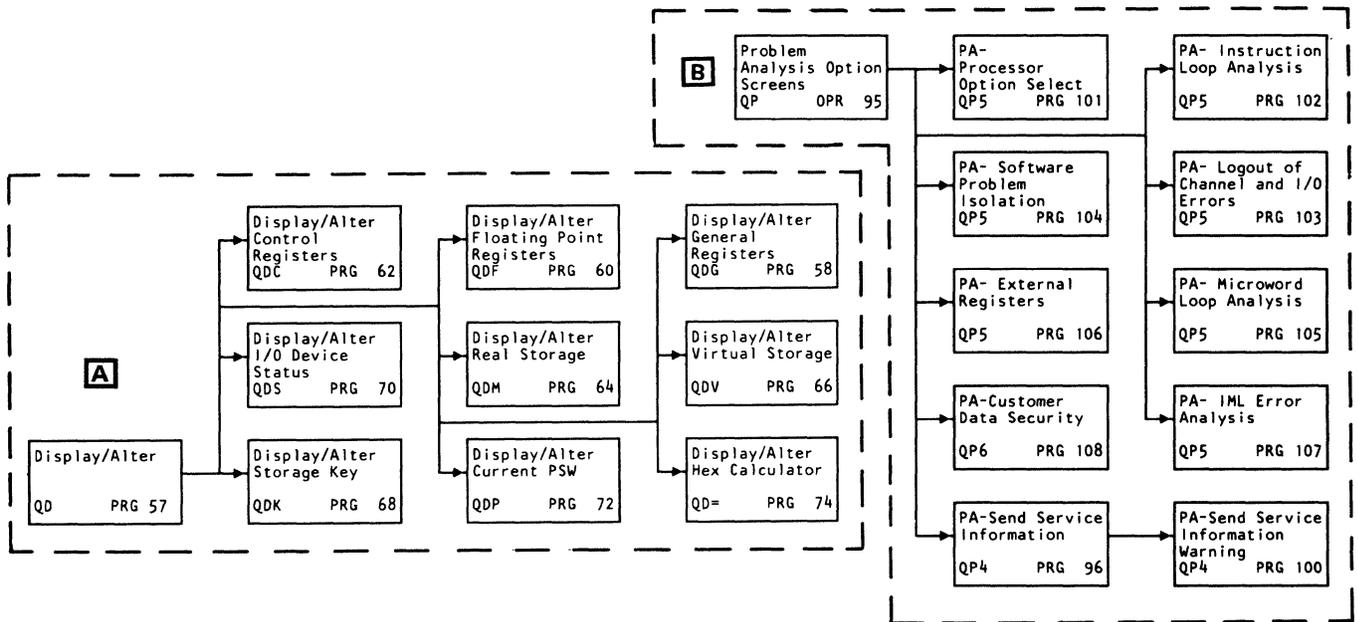

Figure 18. Display/Alter and Problem Analysis Groups
- QD – Display/Alter displays the processor facilities (see Figure 18—**A**).
- QP – Problem Analysis controls the options for PA (see Figure 18—**B**).